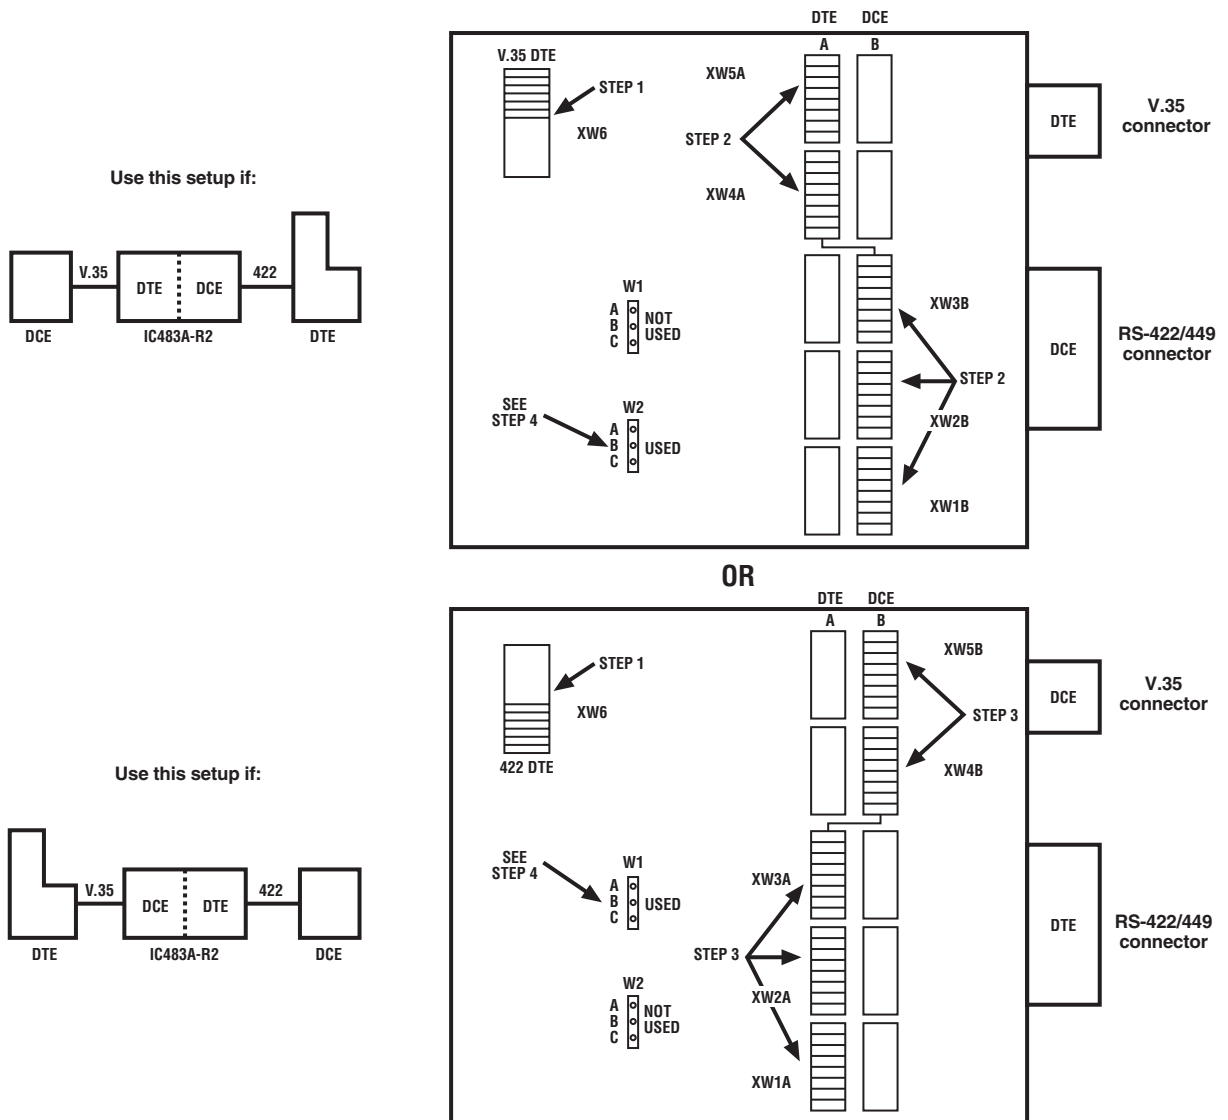

Figure 3-1. Quick Setup Guide for DIP Shunt Settings.
V.35 ↔ RS-422 Interface Converter has two jumper-selectable configurations determined by DIP shunt settings located inside the unit on the printed circuit board. One configuration is for connecting a V.35 DCE device to a 422 DTE device, and the other is for connecting a V.35 DTE to a 422 DCE device. See **Figure 3-1** for more information on DIP shunt settings.
To install the V.35 ↔ RS-422 Interface Converter, follow these steps and refer to **Figures 3-1** and **3-2**.